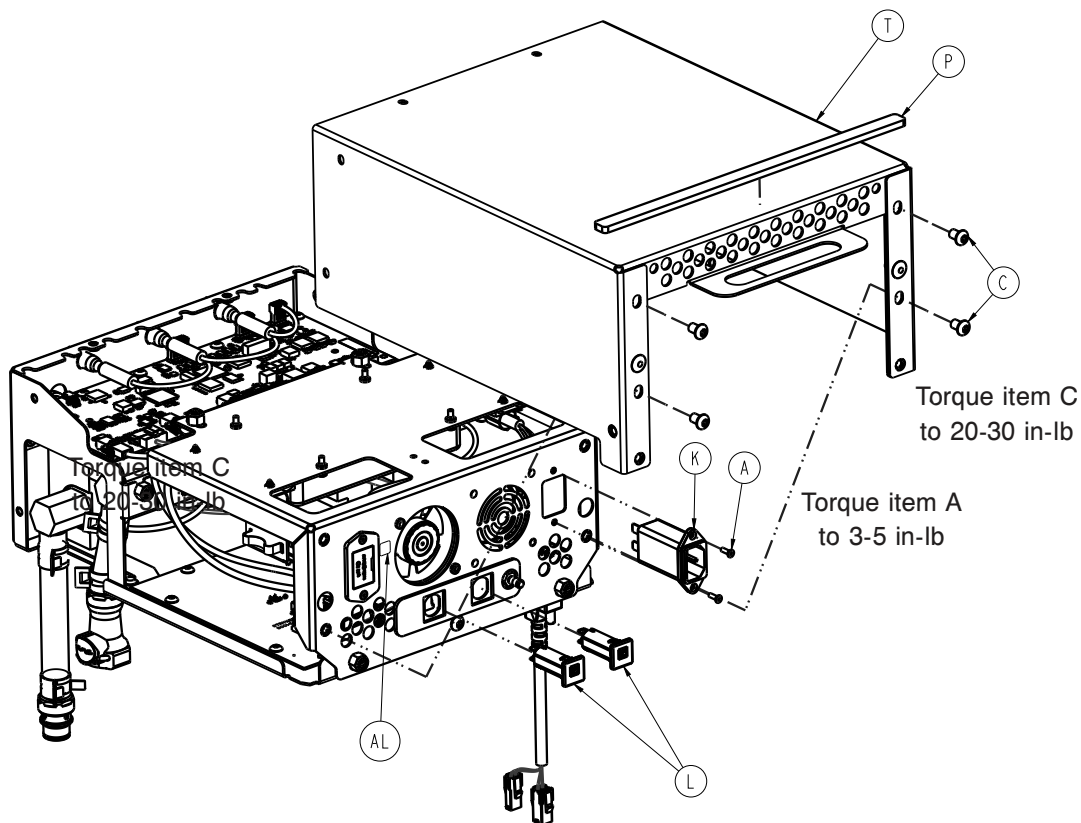

Figure 30: Back of the control assembly
7. Using a T27 torx, remove and save the four screws (C) on the back of the control assembly. Pull the cover towards the back of the product, set aside (Figure 30 on page 44).